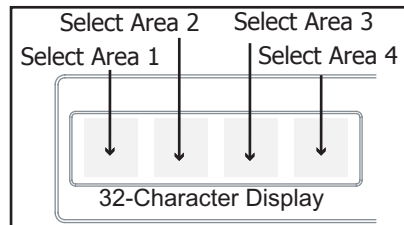

Figure 8: Clear Touch Select Areas
**On Clear Touch Keypads,** when instructed to press the first Select key, touch Select Area 1; the second Select key touch Select Area 2; third Select key touch Select Area 3; and the fourth Select key touch Select Area 4. See Figure 8.